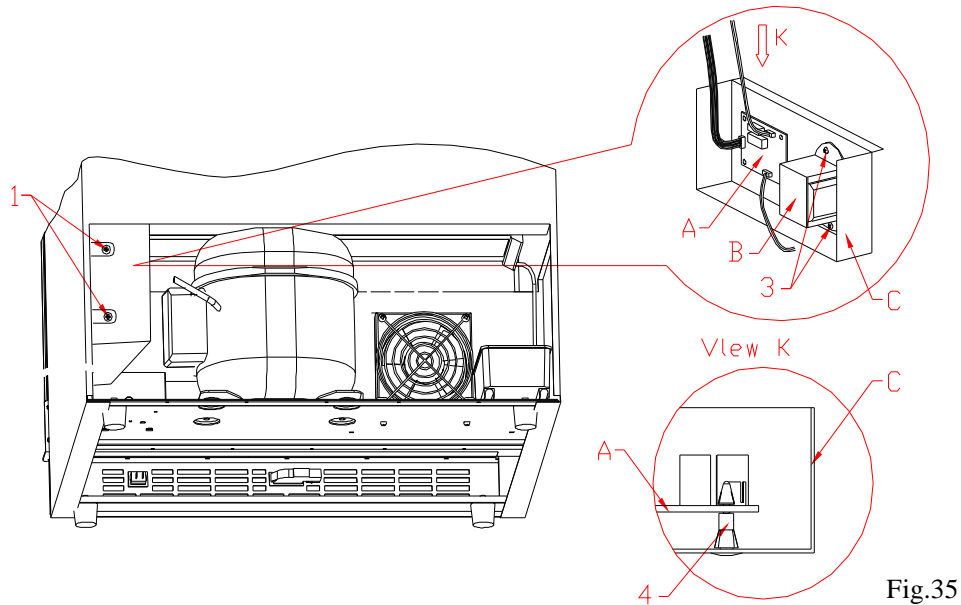

Fig.35
model 2: PCB board divide into 2 blocks, the main PCB board is in the electrical box( Fig.15),the other power PCB board is in the left of the compressor's box with the transformer. ( Fig.35)
a.Remove the two screw(1) that fixing the electrical box for power PCB ( Fig.35).
b.Remove the the electrical box(C) for power PCB ( Fig.35).
c. Unplug all the connector, press the 4 studs (4) one by one. Updraw the power PCB board(A), and draw off the PCB board, , replace it with the same model's PCB board. ( Fig.35) (Vlew K)
d.Remove two fixing screw(3) of the transformer, take off the tranformer ( B ) for replacement. ( Fig.35)